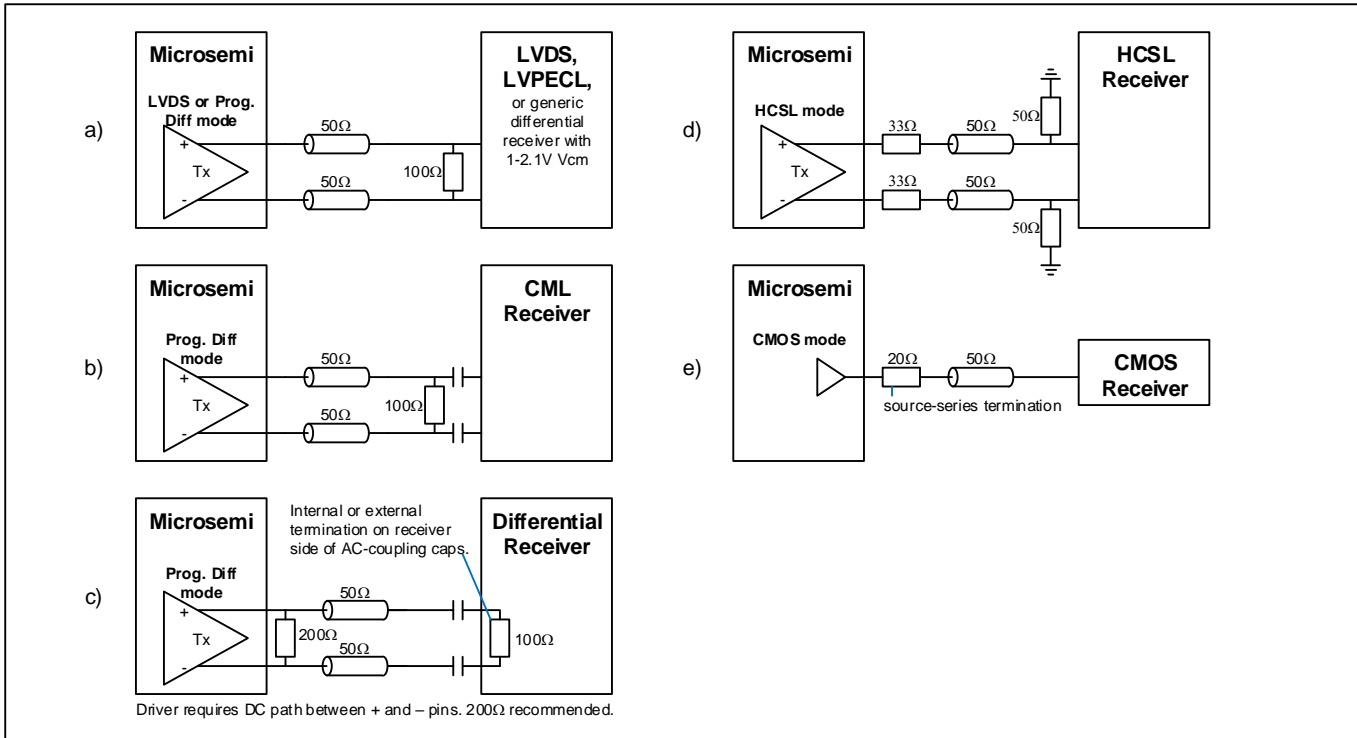

Figure 17 - Example External Components for Output Signals
**Note 1:** OCxCR2.OCsf=0001 (LVDS). Output must have 100Ω DC path between OUTxP and OUTxN to meet these VOD specs. See Figure 17 parts a) and b) for examples where this DC path is a 100Ω termination resistor at the receiver.
**Note 1:** OCxCR2.OCSF=0010, OCxDIFF.VCM=1100, OCxDIFF.VOD=0101. Output must have 100Ω DC path between OUTxP and OUTxN to meet these  $V_{\text{OD}}$  specs. See Figure 17 parts a) and b) for examples where this DC path is a 100Ω termination resistor at the receiver.
Figure 17 part c) covers the case where an existing receiver has AC coupling caps followed by an internal or external 100Ω termination resistor. The driver requires a DC path between its POS and NEG pins even in this case. A 200Ω resistor is recommended. Since this arrangement attenuates the signal by one third, The `OCxDIFF.VOD` field should be set 50% higher to compensate.